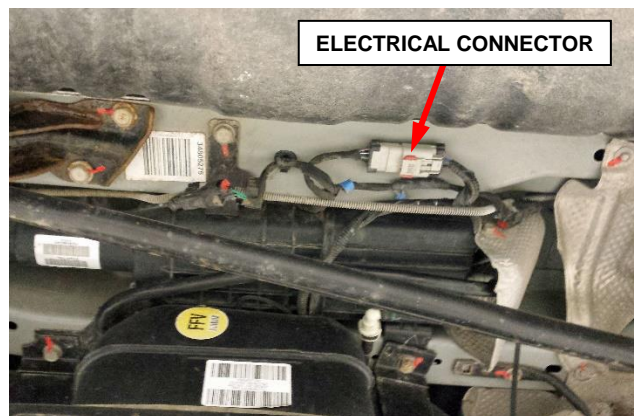

Figure 1 – Fuel Pump Module Electrical Connector
2. Disconnect the fuel pump module electrical connector located behind the fuel tank (Figure 1).
13. Connect the fuel pump module electrical connector located behind the fuel tank (Figure 1).
34. Disconnect fuel pump electrical connector from body harness connector (Figure 1).